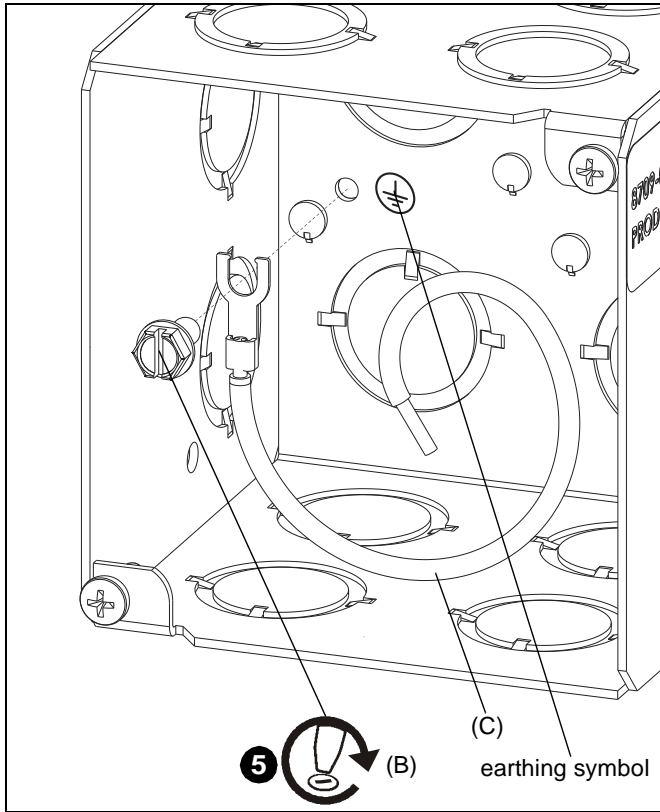

Figure 3
- Use #10-32 x 3/8" flange screw (B) and flathead screwdriver to attach grounding wire (C) to housing at hole near earthing symbol. (See Figure 3)